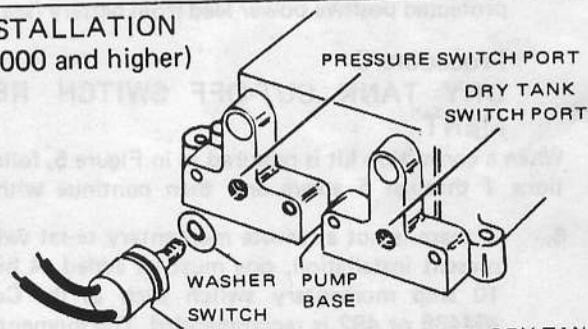

Figure 1. New Switch Replacement
4. Screw replacement switch into pump base until snug (Figure 1).